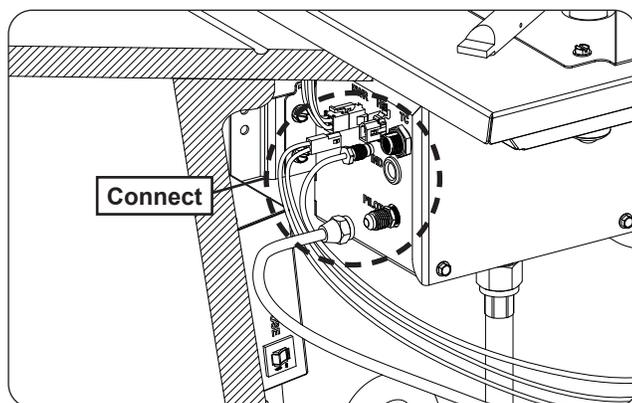

Fig. 35-3 Connect pilot line, thermocouple, and hot surface igniter
6. Connect the pilot line, thermocouple, and hot surface igniter (coming from the burner assembly) to the control box (see Fig. 35-3).